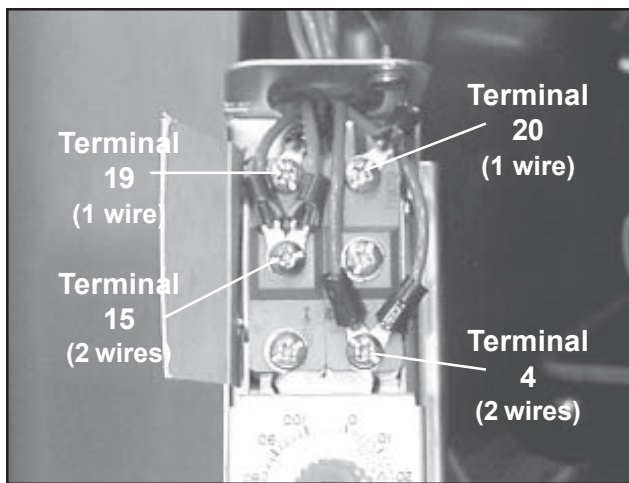

Figure 126. Thermostat Wire Connections
10. Using tags, masking tape, or any other convenient means, tag each of the six wires on the thermostat by their terminal numbers as shown in Figure 126. Failure to mark the wires will make it difficult to connect them correctly later.
9. Pass all six wires through the rubber grommet and connect them to the correct terminals on the thermostat (Figure 126).